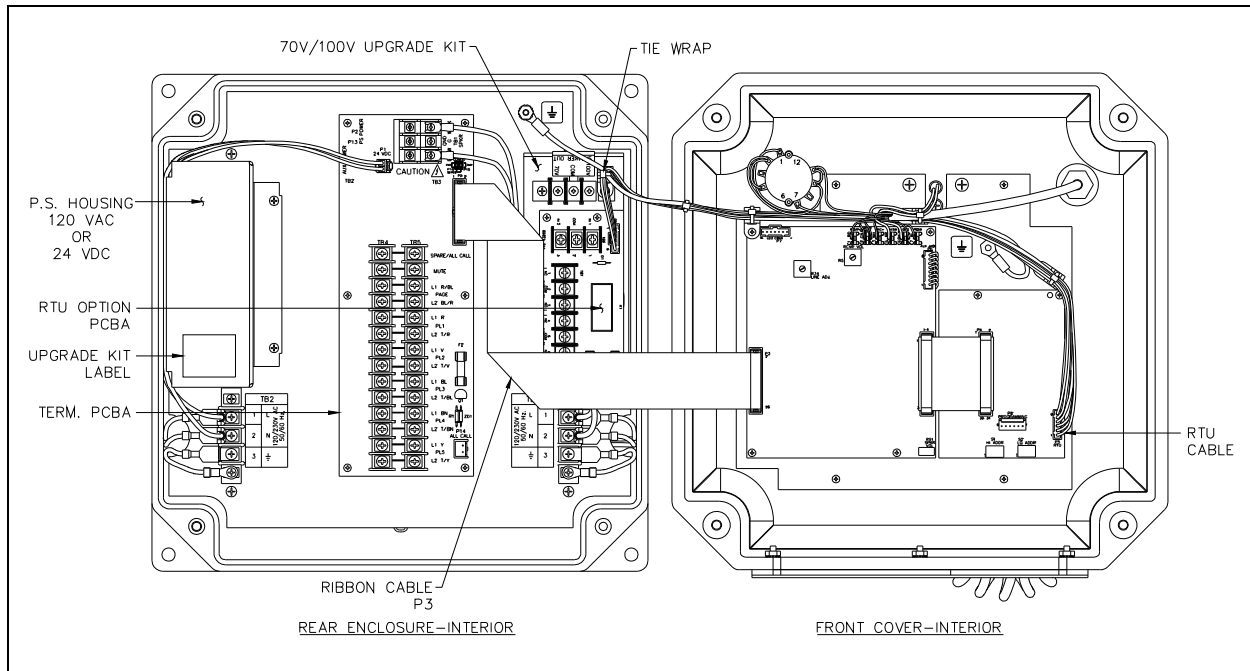

Figure 3. Upgraded ICS Zone 2/22 Station – Interior View
9. Place the Upgrade Kit label on the power supply housing as shown in Figure 3.